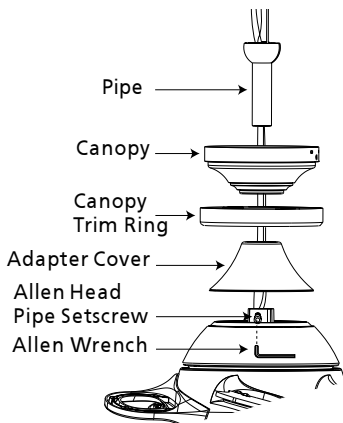

Figure 3a - Inserting Pipe through Canopy, Trim Ring, and Adapter Cover
1. Insert the pipe through the canopy, the canopy trim ring, and the adapter cover as shown in Figure 3a. Feed wires from the fan through the pipe.
2. Screw pipe into fan assembly until tight. **IMPORTANT!** Tighten allen head pipe setscrew as shown in Figure 3a with the included allen wrench.